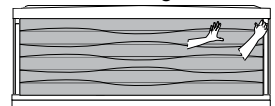

Figure 13.3b
3. Remove the center panel. Grab either the top left or top right side of the front center panel, Figure 13.3b. Gently pull the cabinet forward to unsnap it from the holding clips. Make sure to support the cabinet as you work your way down the side to completely unclip it from the hot tub frame. Once completely unclipped, tilt slightly forward and lift up to remove it from the hot tub frame. Place the panel in a safe location to prevent from damaging it.